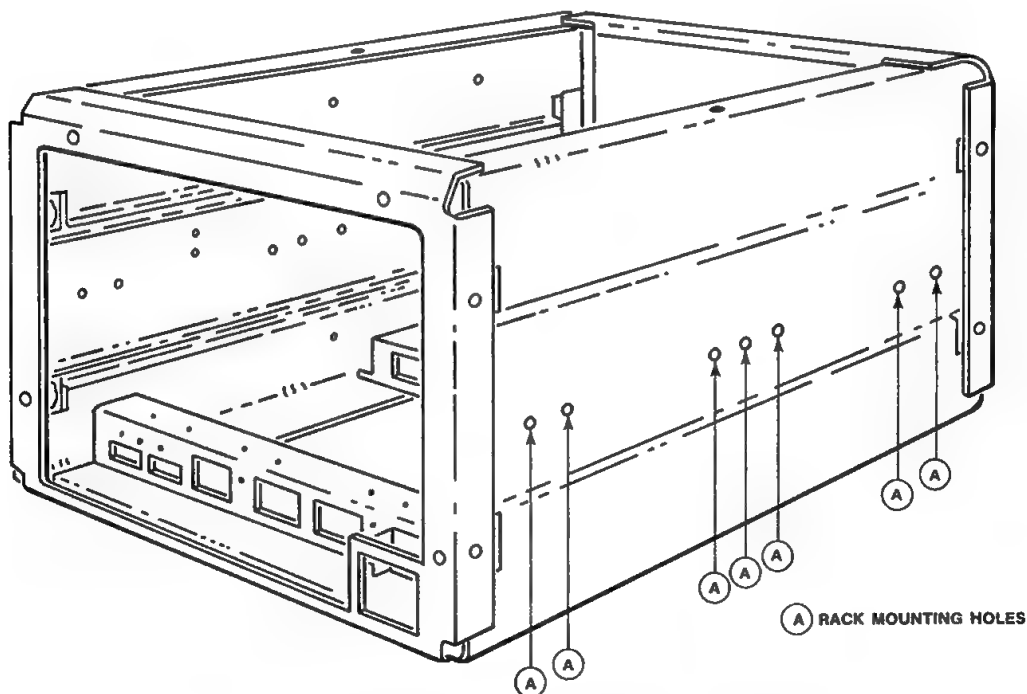
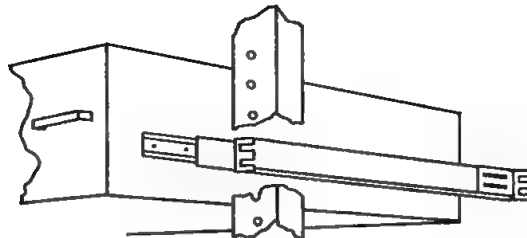

Figure 2-4. Chassis Side View, Rack Mount Positions
Figure 2-5. Rack Mount Attachment Diagram
The hardware required to install the iSBC 681 Multistore Chassis into a standard RETMA 19-inch wide rack is supplied with the unit when shipped from the factory. The chassis is supplied with one set of support brackets which are designed to be used on the slides which are attached to the chassis. See Figures 2-4 and 2-5.
- b. Install two slides on each side of the chassis as shown in Figure 2-4. Then install the slide mount brackets on the slides with 8-32" by 3/8" pan-head screws as shown in Figure 2-5.